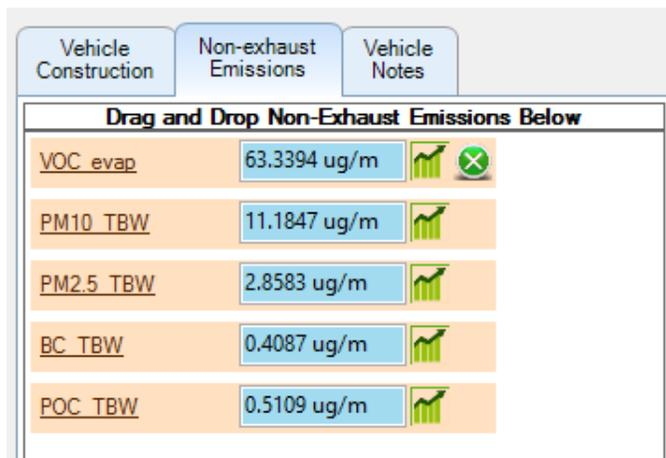

Figure 81: Vehicle Other Emissions
**Other emissions:** The non-exhaust emissions are not related to the internal combustion engine operation, but to external factors, such as tire and brake use or gasoline evaporation. See Figure 81.